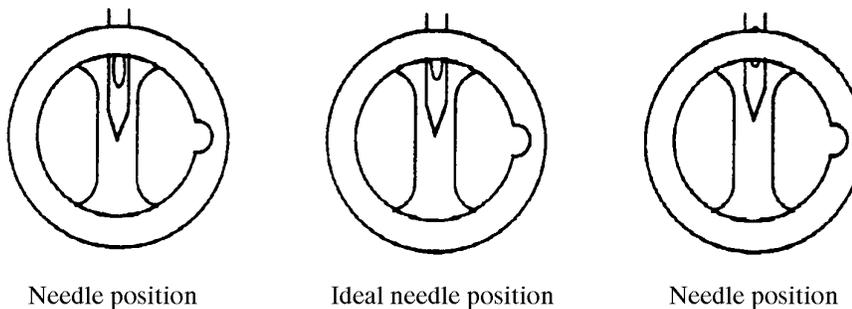

Figure 5-18
9. Look directly into the hook assembly and check the location of the needle's eye compared to Figure 5-18.